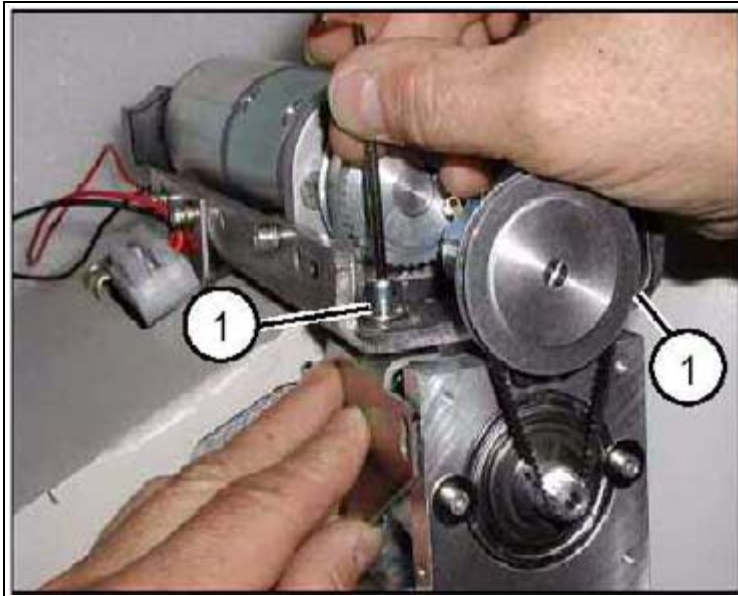

Fig. 29: Orbital motor 3
4. Loosen the 2 fastening screws at the two lateral brackets (1/Fig. 29 / p. 72).